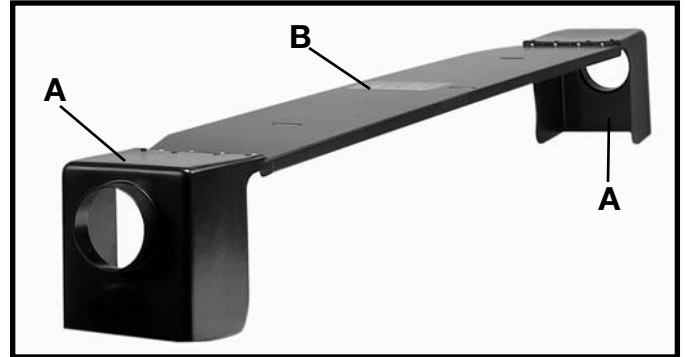

Fig. 8
Two dust chutes (A) Fig. 8, are supplied with the top guard (B) and are equipped with four-inch diameter openings. These dust chutes (A) are hinged to allow easy connection to a dust collection system and also provides for fast belt changing without removing the guard assembly (B) from the machine.
To assemble the top guard and dust chute assembly (B) Fig. 8, to the edge sander proceed as follows: